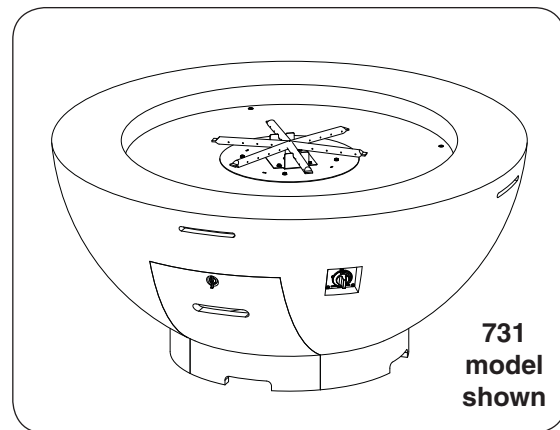

Fig. 23-1 Place unit
1. **CAREFULLY** place the base in an appropriate location (see Fig. 23-1, and refer back to the LOCATION section if needed).